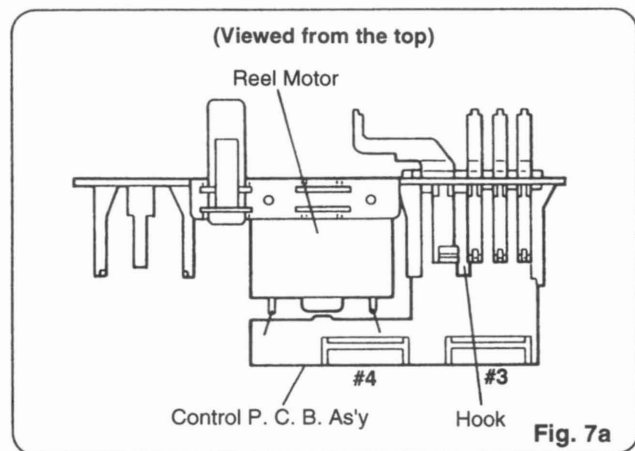

Fig. 7a
- f. Pull off 1 hook and then remove the Control P.C.B. Ass'y in Fig. 7a.